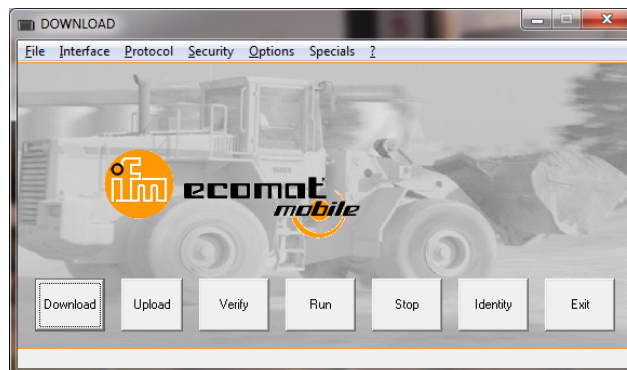

Figure 2. Downloader Program
- (a) Open the Downloader Program from the desktop. The program will open a window shown in **Figure 2**.